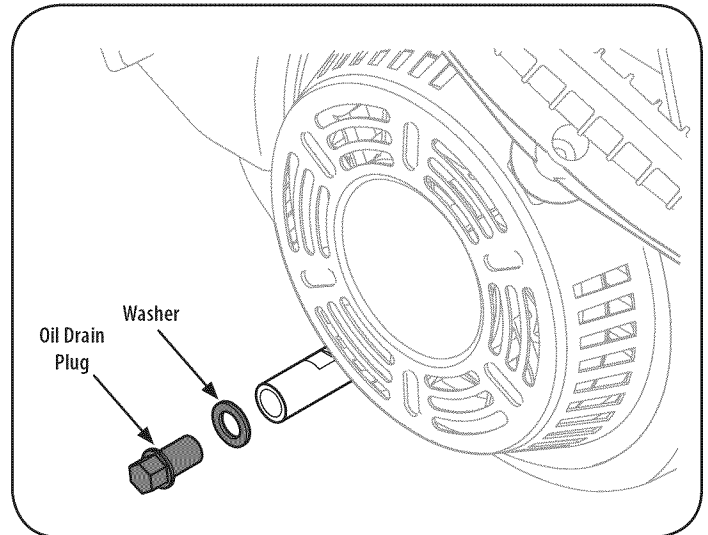

Figure 19
3. Remove oil drain plug and washer. See Figure 19 on next page.